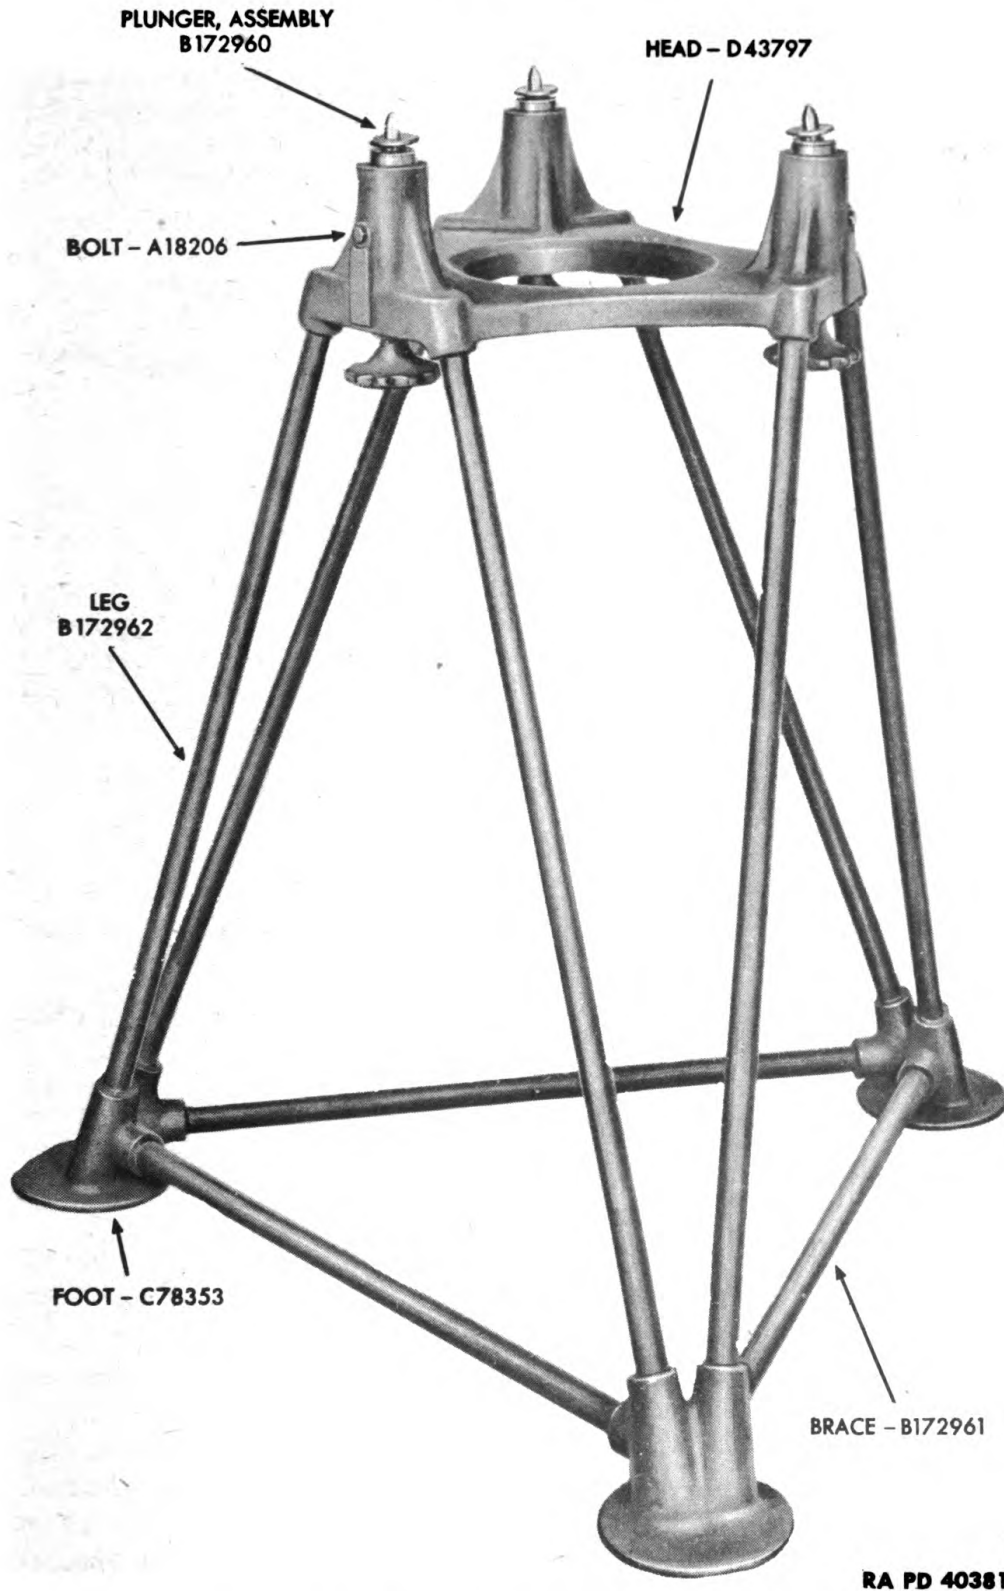

Figure 54 - Tripod M7 (Welded Assembly)
a. Tripod M7 (fig. 54) is of welded tubular steel construction. It has three adjustable plunger assemblies, shown in figure 56, which permit the director to be levelled.